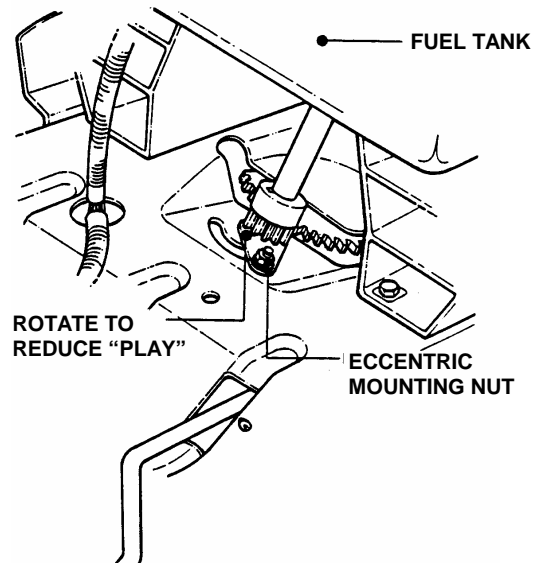

FIGURE 4.10
2. From left side of tractor, locate the steering sector below fuel tank. See Figure 4.10.
3. Loosen the eccentric mounting nut and rotate the eccentric clockwise until steering "Play" is reduced. See Figure 4.10.